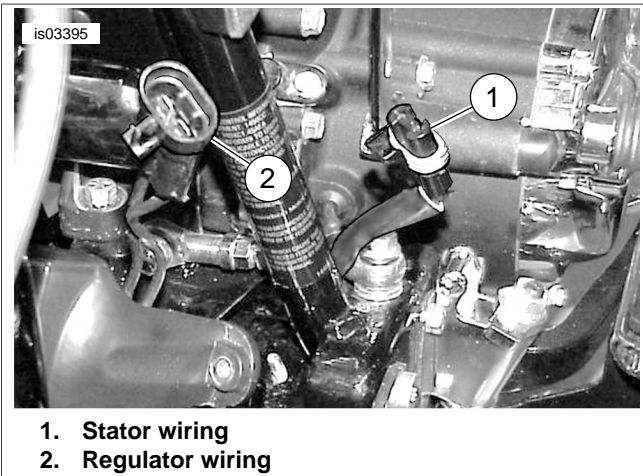

Figure 5. Stator and Regulator Wiring
13. See Figure 5. Connect stator (1) and regulator (2) wiring connectors, then position the connector onto the bracket on bottom of the voltage regulator.